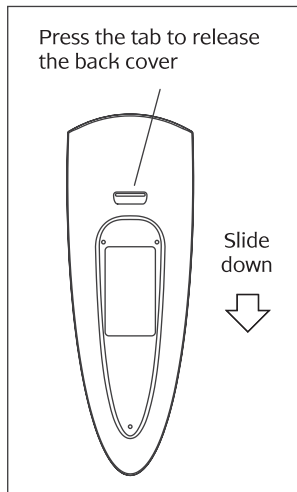

Figure 6 – Removing the back cover
- 2) Press the tab and slide the back cover down to release (refer to Figure 6).